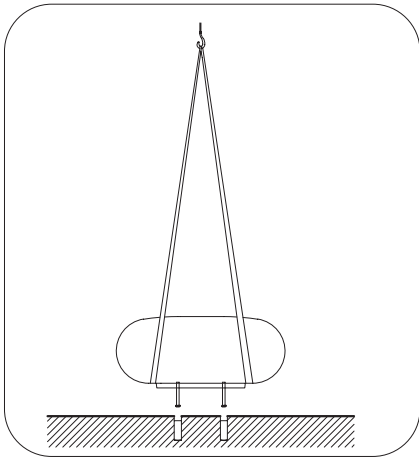
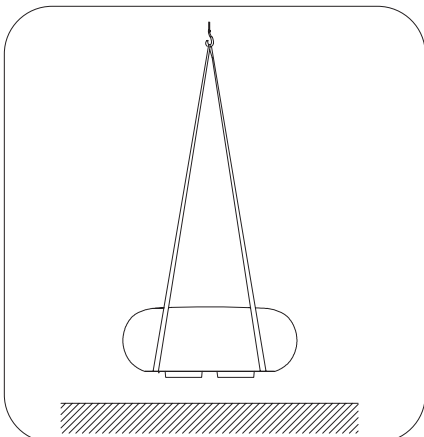

Fig. 1 Crane Install - Strap Locations (anchored)
Fig. 2 Crane Install - Strap Locations (Freestanding)
2. Set in place with proper equipment such as a crane. See Fig. 1 or Fig. 2